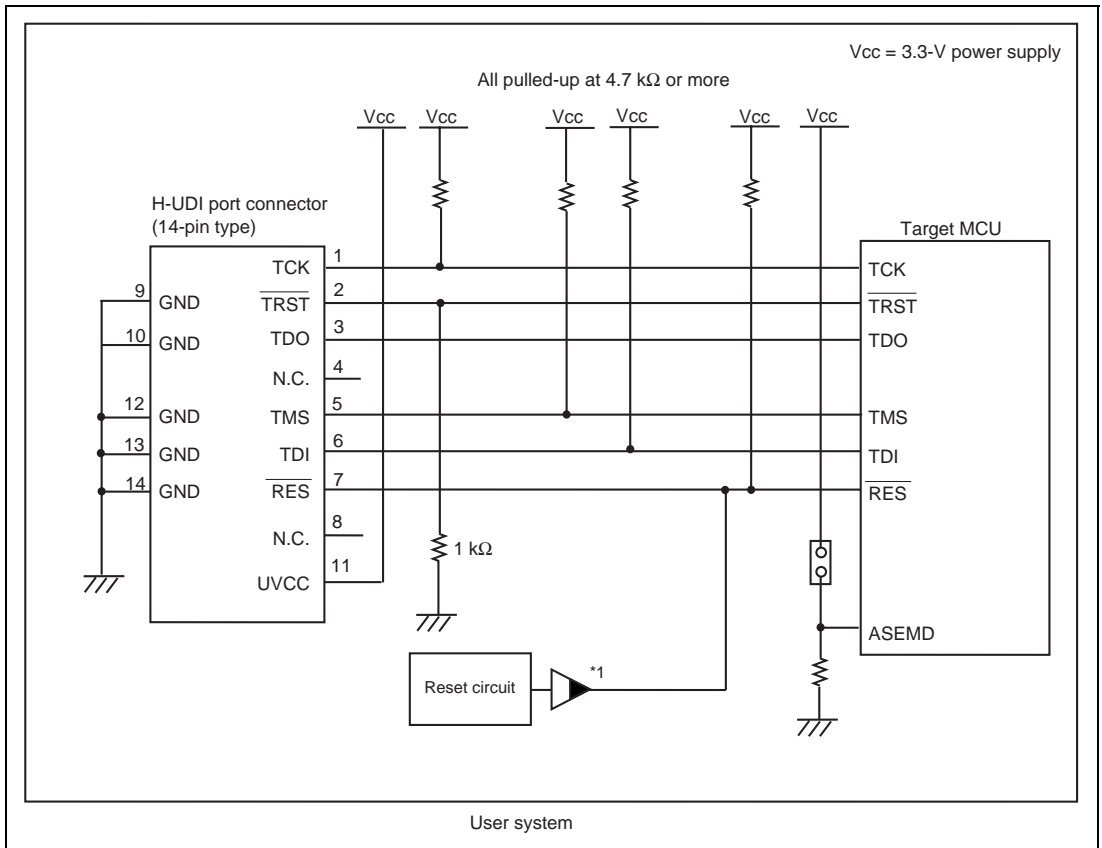

Figure 1.2 Recommended Circuit for Connection between the H-UDI Port Connector and MCU when the Emulator is in Use (14-Pin Type)
Figure 1.2 shows a recommended circuit for connection between the H-UDI port connector (14 pins) and the MCU when the emulator is in use.
- (1) When the emulator is used: ASEMD = 1
- (2) When the emulator is not used: ASEMD = 0Figure 1.2 shows an example of circuits that allow the ASEMD pin to be changed by switches, etc.
6. The resistance value shown in figure 1.2 is for reference.
When the circuit is connected as shown in figure 1.2, the switches of the emulator are set as SW2 = 1 and SW3 = 1. For details, refer to section 3.8, Setting the DIP Switches, in the SuperH™ Family E10A-USB Emulator User's Manual.